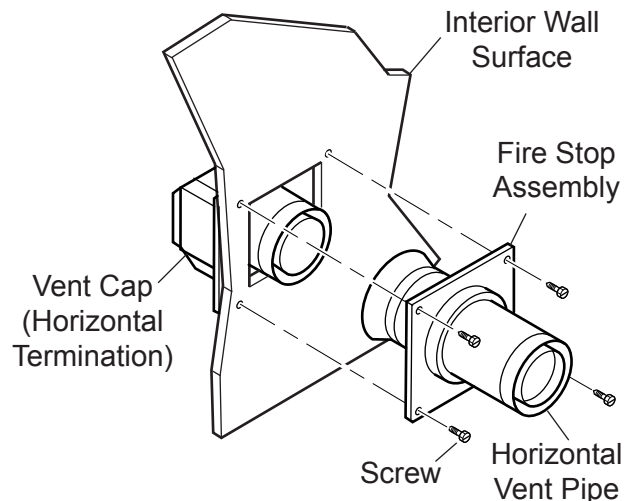

Figure 23 - Connecting Vent Cap with Horizontal Vent Pipe
5. Slide fire stop over the vent pipe before connecting the horizontal run to the vent cap. See Figure 23.
7. Slide fire stop against the interior wall surface and attach with screws. See Figure 23.